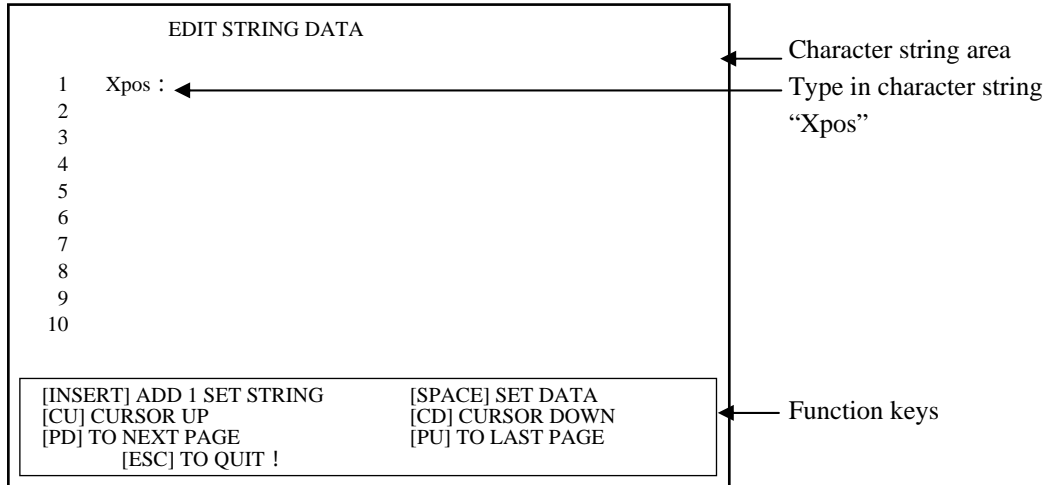

Fig 12-15 Character String Editing Page
Step 1: On main function screen, press [F1] key to get into character string editing area. Press SPACE bar, type character string and press ENTER as in Fig 12-15.